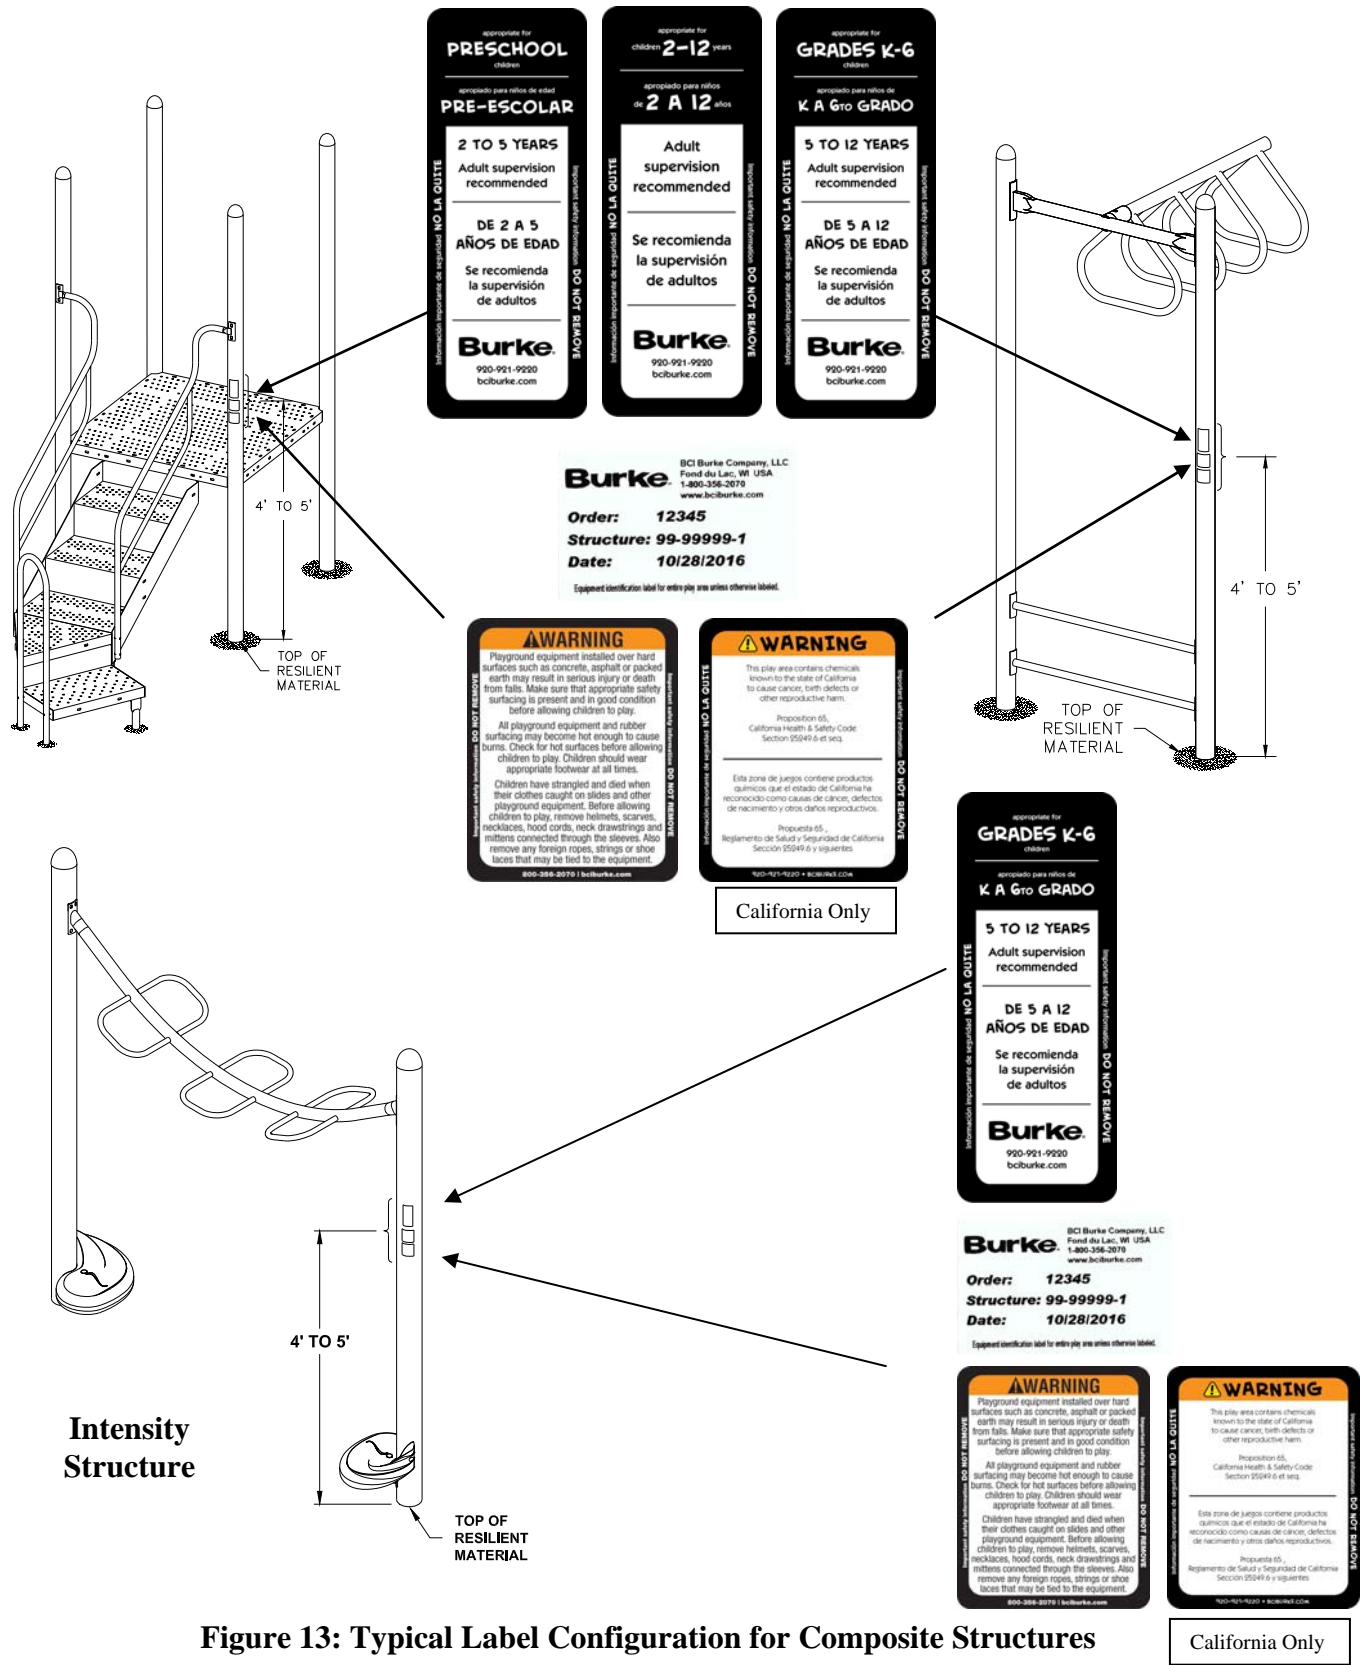

Figure 13: Typical Label Configuration for Composite Structures
- Choose highly visible label locations at a height of 4' to 5' above the resilient surfacing material. See Figure 13.
Equipment Identification Label and cover label - Place this label and clear protective cover label on all equipment, either directly below the Age-appropriate designation or as the top most label for equipment that does not have a specific age-appropriate label. See Figures 13, 14 and 15. This label provides the tracking label information required by CPSIA.